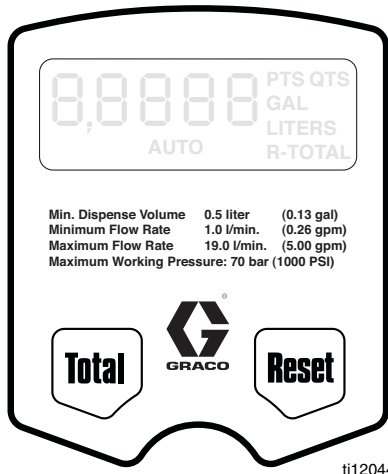

FIG. 10
Setup Menus (FIG. 10)
1. If the display is blank (asleep), wake it up by pressing any button on the keypad (FIG. 10).
2. Press and hold the Total and Reset buttons simultaneously for approximately six (6) seconds to enter the Setup Menu (FIG. 10).